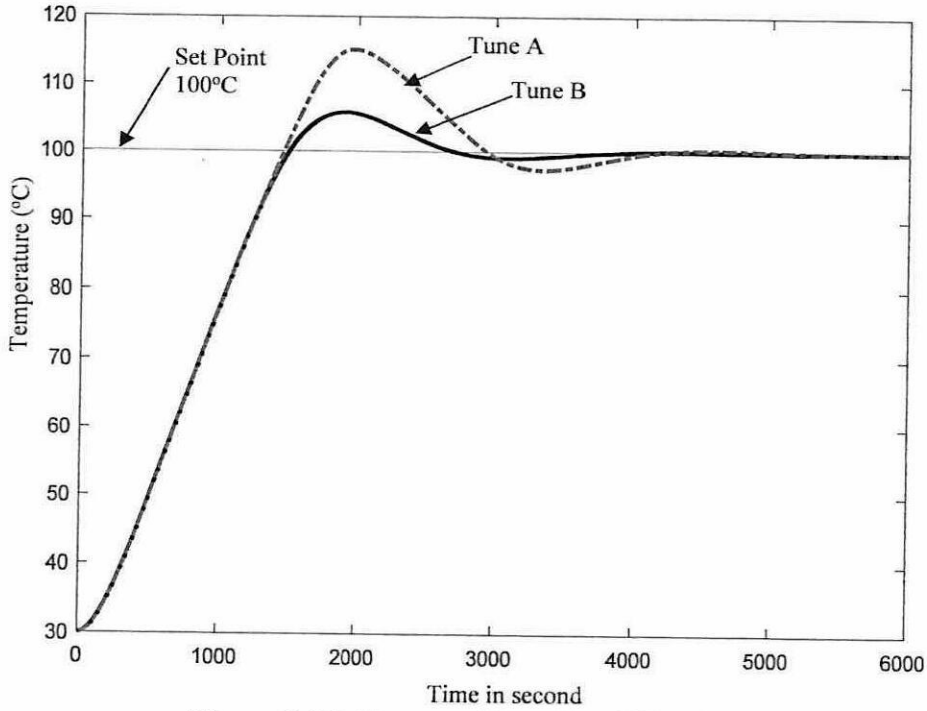

Figure Q4.1: Response Tune A and Tune B.
- (b) TinggiSolution Sdn. Bhd. has proposed **TWO (2)** sets of tuning parameters for a Proportional Integral (PI) controller namely Tune A and Tune B to the LakuOil Holding for controlling temperature of steam distillation system handled by the company. The response for both PI tuning (Tune A and Tune B) in controlling temperature of steam distillation system is shown in **Figure Q4.1**